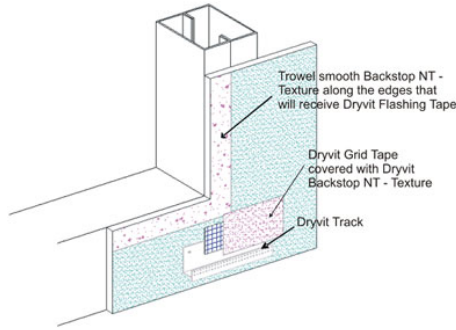

Figure 17
- 4) While the Backstop NT - Texture is still wet, using a trowel or spatula, smooth out the Backstop NT - Texture around all window and door perimeters and other areas that will later receive Dryvit Flashing Tape - Figure 17.
- 1) Apply Dryvit Grid Tape as described in Section VI.F.1 above. Mix the material as described in Section III.B.2 and using a stainless steel trowel or spatula, apply a layer of Backstop NT - Texture over the grid tape and spot all fastener heads. Allow to dry for a minimum of two (2) hours or until dry to the touch. **NOTE: Cool, humid conditions may require longer drying times.**
- 4) While Backstop NT - Texture is still wet, using a trowel or spatula, smooth out the Backstop NT - Texture around all window and door perimeters and other areas that will later receive Dryvit Flashing Tape – Figure 17.